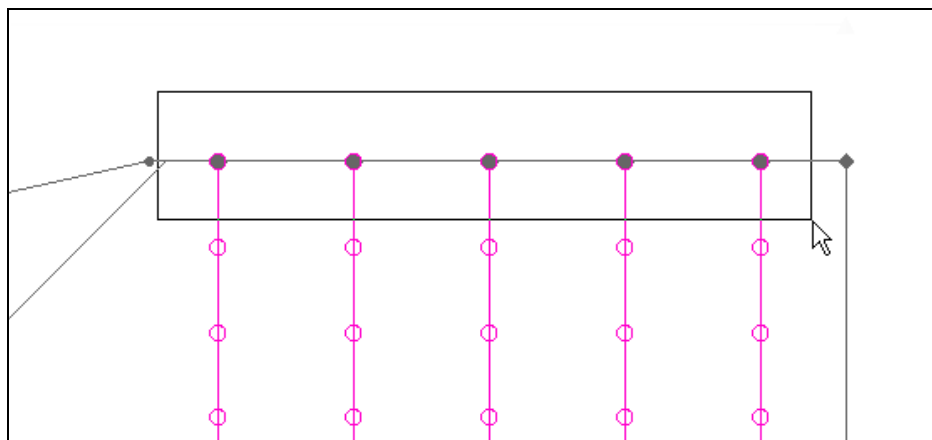

Figure 6. Selecting the top reinforcement nodes by dragging a box.
2. Select all the top nodes by dragging a box around them as shown in Figure 6 below.